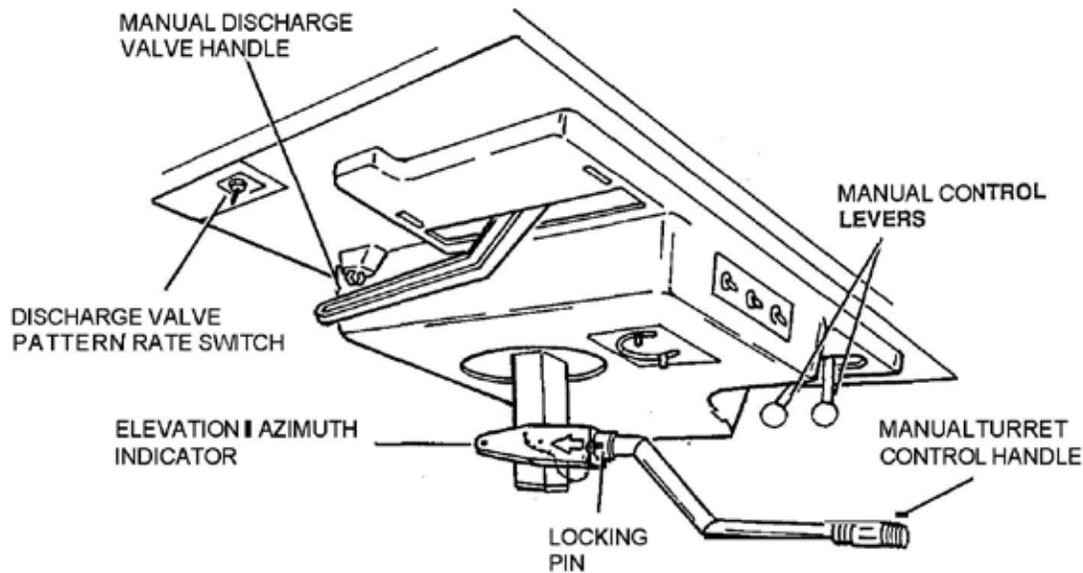

Figure 1-6 Roof Turret Manual Mode Controls.
- c. Manual Mode. In this mode, the roof turret is aimed and the agent discharge is controlled manually without power assist. This mode is normally used only when air and / or electrical power to the turret is lost. Refer to Figure 1-6.